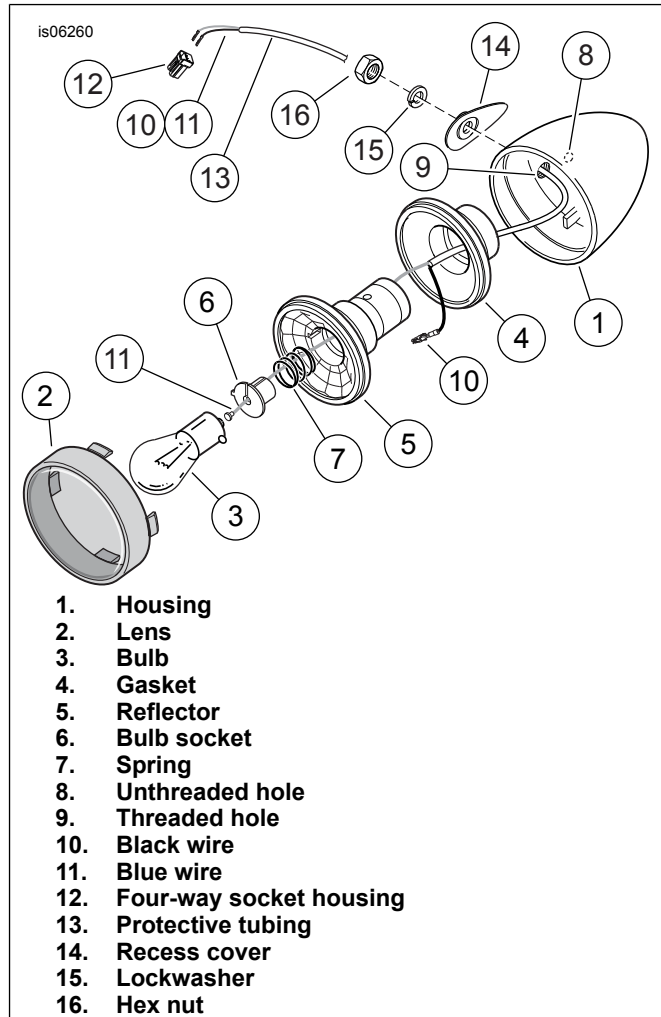

Figure 5. Turn Signal Lamp
4. See Figure 5. Remove the black (10) and blue (11) wires and socket terminals from the turn signal socket housings. Set the turn signals and socket housings aside for later installation.
6. Strip about 25 mm (1 in) of insulation from the unterminated end of **one** wire, and tie a fish tape or mechanics' wire to the stripped end. Feed the wire into one of the threaded studs on the turn signal relocation weldment. Push the wire past the Y-joint until the end of the fish tape or mechanics' wire comes out through the forward opening (E) of the tube. Continue pulling and pushing the wires until the insulated wire end is exposed. Remove the fish tape or mechanics' wire from the insulated wire end.
9. See Figure 5. Insert a thin-blade screwdriver or similar tool into the slot at the bottom of the lens (2) of one of the turn signal lamps, and twist to unsnap the lens from the housing (1). Push the bulb (3) in and rotate counterclockwise to remove.
10. Insert the tool between the outer edge of the rubber gasket (4) and the inside of the housing. Gently pry up the reflector (5) until free.
15. See Figure 5. Thread the wires from the threaded stud on the turn signal relocation weldment through the **threaded** hole (9) in the lamp housing (1) and the center of the rubber gasket (4).